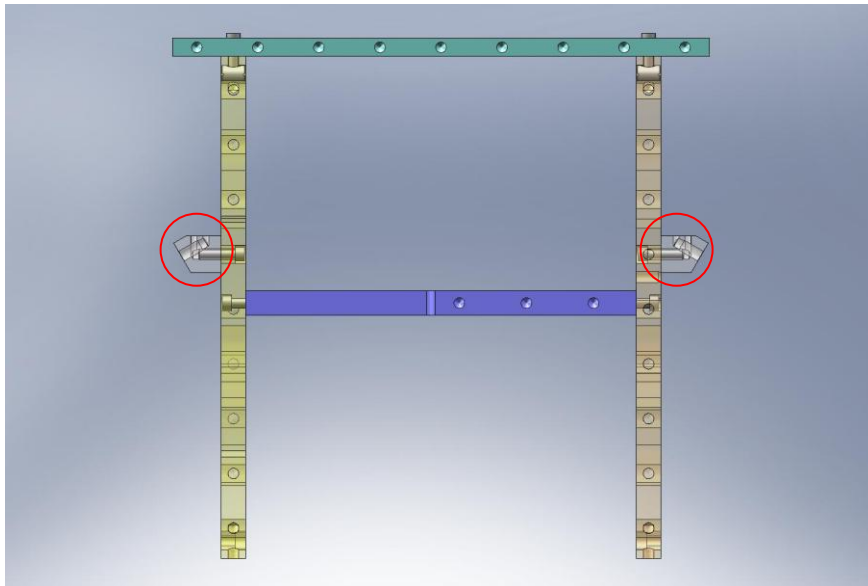

Figure 2.27. A top view of the Boxwork Assembly, showing (2) 60 Deg Rib Brackets screwed to the sides of the Radial Ribs. Note the orientation of the Brackets.
- Screw on (2) **60 Deg Rib Brackets** (D071073), in orientation shown in Figure 2.27. Snug screws, but do not torque. These will not be torqued until near the end of the assembly of the **Stage 1 Frame** (D071421).